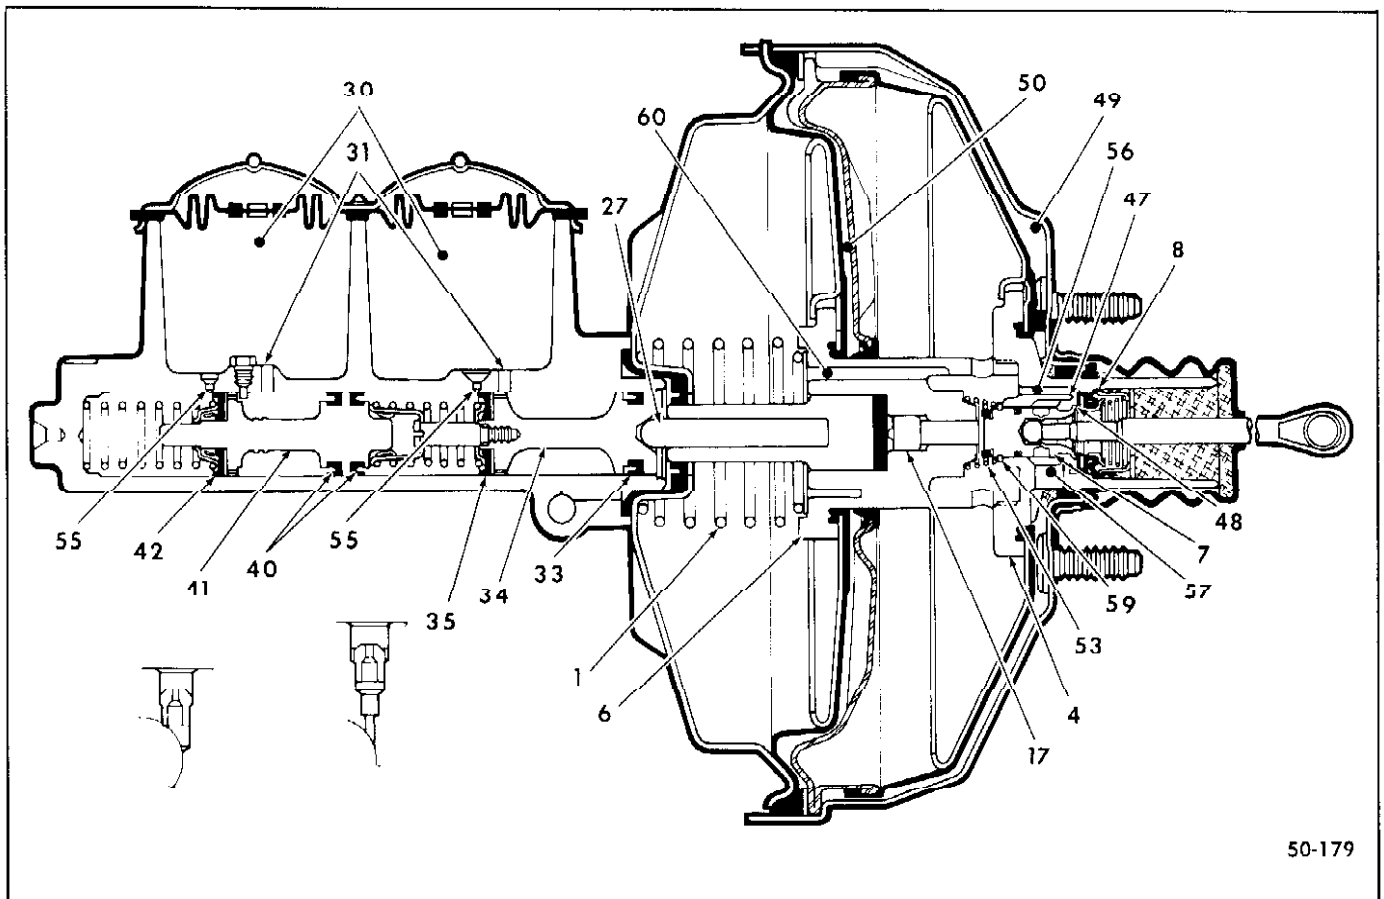

Figure 50-72 Releasing Position
As the pressure at the brake pedal is released, the air valve spring (53) forces the air valve assembly (7) back until its retaining ring (59) rests against the primary power piston (4). The contact of the air valve assembly with the floating control valve has shut off the flow of atmospheric pressure air to areas (49 and 50). As the air valve spring forces the air valve assembly into its released position, the air valve lifts the floating control valve (8) from its seat (47) on the primary power piston. The air valve (7) seating on the floating control valve (8) at point (48) has shut off the outside air source. The unseating of the floating control valve from the power piston opens areas (49 and 50) to the vacuum source through passage way (56). See Figure 50-72.